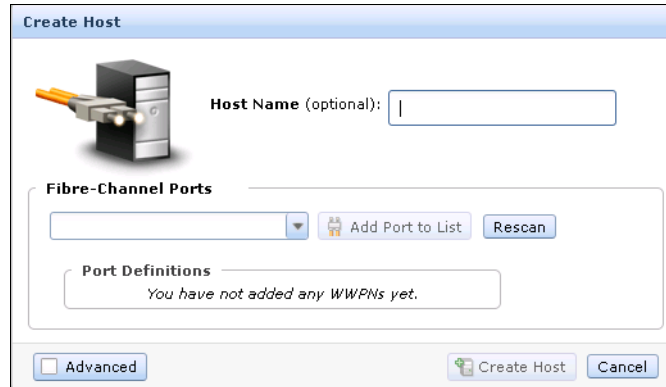

Figure 4-18 Create a Fibre Channel host
1. Click **Fibre Channel Host**, as shown in Figure 4-17 on page 159. The Fibre Channel configuration wizard opens, as shown in Figure 4-18.